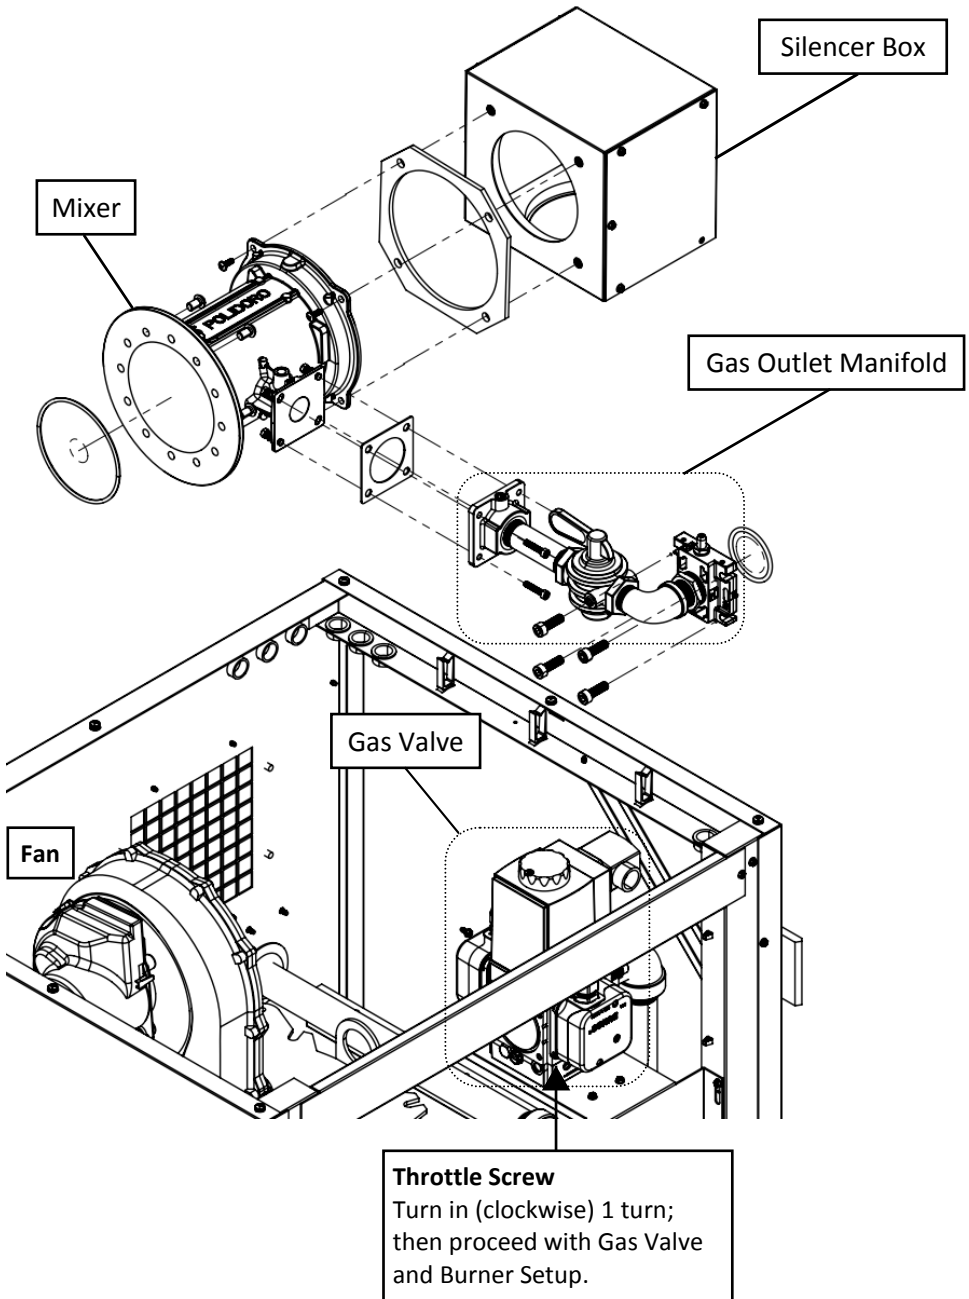

Figure 1 – Mixer Replacement and Throttle Screw Pre-set
- h. Turn the gas valve Throttle Screw clockwise (in) 1 turn – see Figure 1.